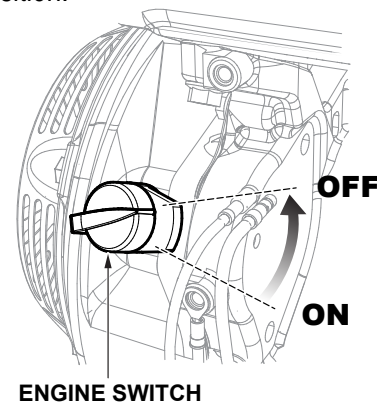

Figure 22. Engine ON/OFF Switch (OFF Position)
2. Place the engine ON/OFF switch (Figure 22) in the **"OFF"** position.